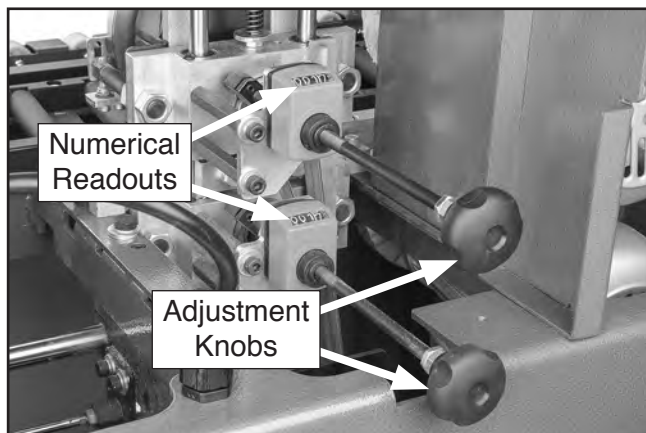

Figure 54. Location of flush trimmer adjustment knobs (rear access cover opened for illustration purposes).
3. Rotate each flush trimmer adjustment knob until number displayed in readout equals thickness of edgebanding (see **Figure 54**).